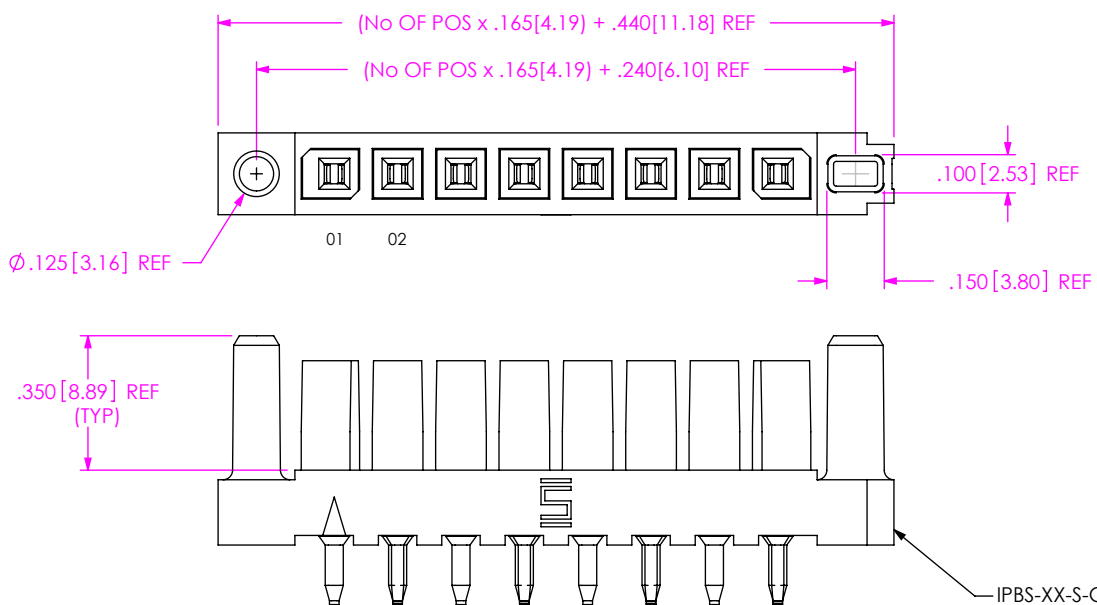

FIG. 3
- GP: GUIDE POSTS (USE IPBS-XX-S-GP) [SEE FIG. 3, SHT 2]